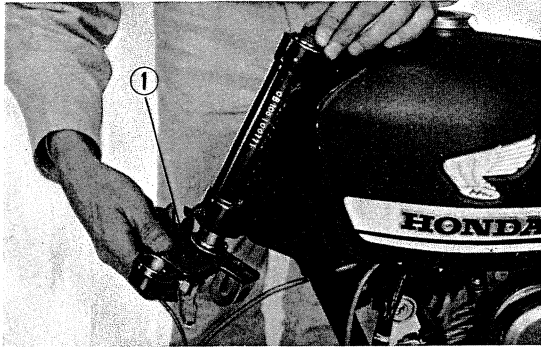

Fig. 124 Steering stem removal
- 11) Loosen the steering head top nut and then drop steering stem out the bottom. (Fig. 124)